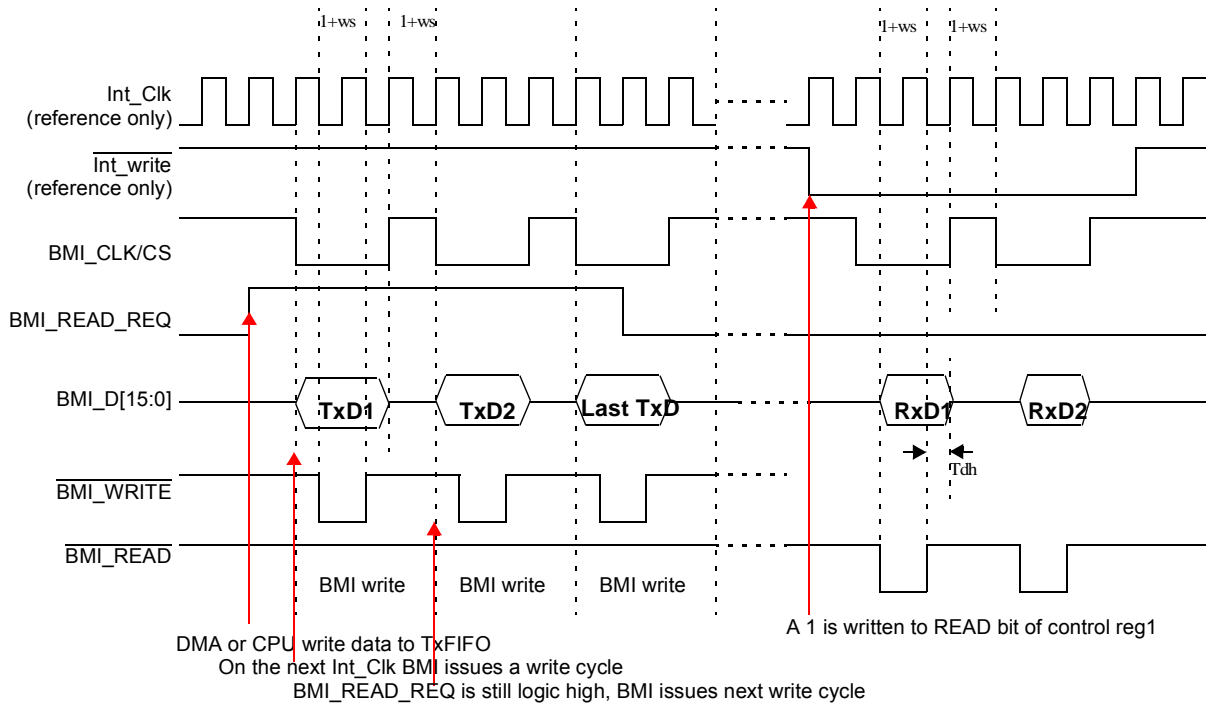

Figure 11. Memory Interface Master Mode, BMI Read/Write to External Slave Device Timing without Wait Signal (MMD_MODE_SEL=0, MASTER_MODE_SEL=1)
The WAIT control bit (BMICTLR1[29]) is used in this mode. When this bit is cleared (default), the BMI_WAIT signal is ignored and the CS cycle is terminated by Wait State (WS) control bits. Figure 11 shows the BMI timing when the WAIT bit is cleared.